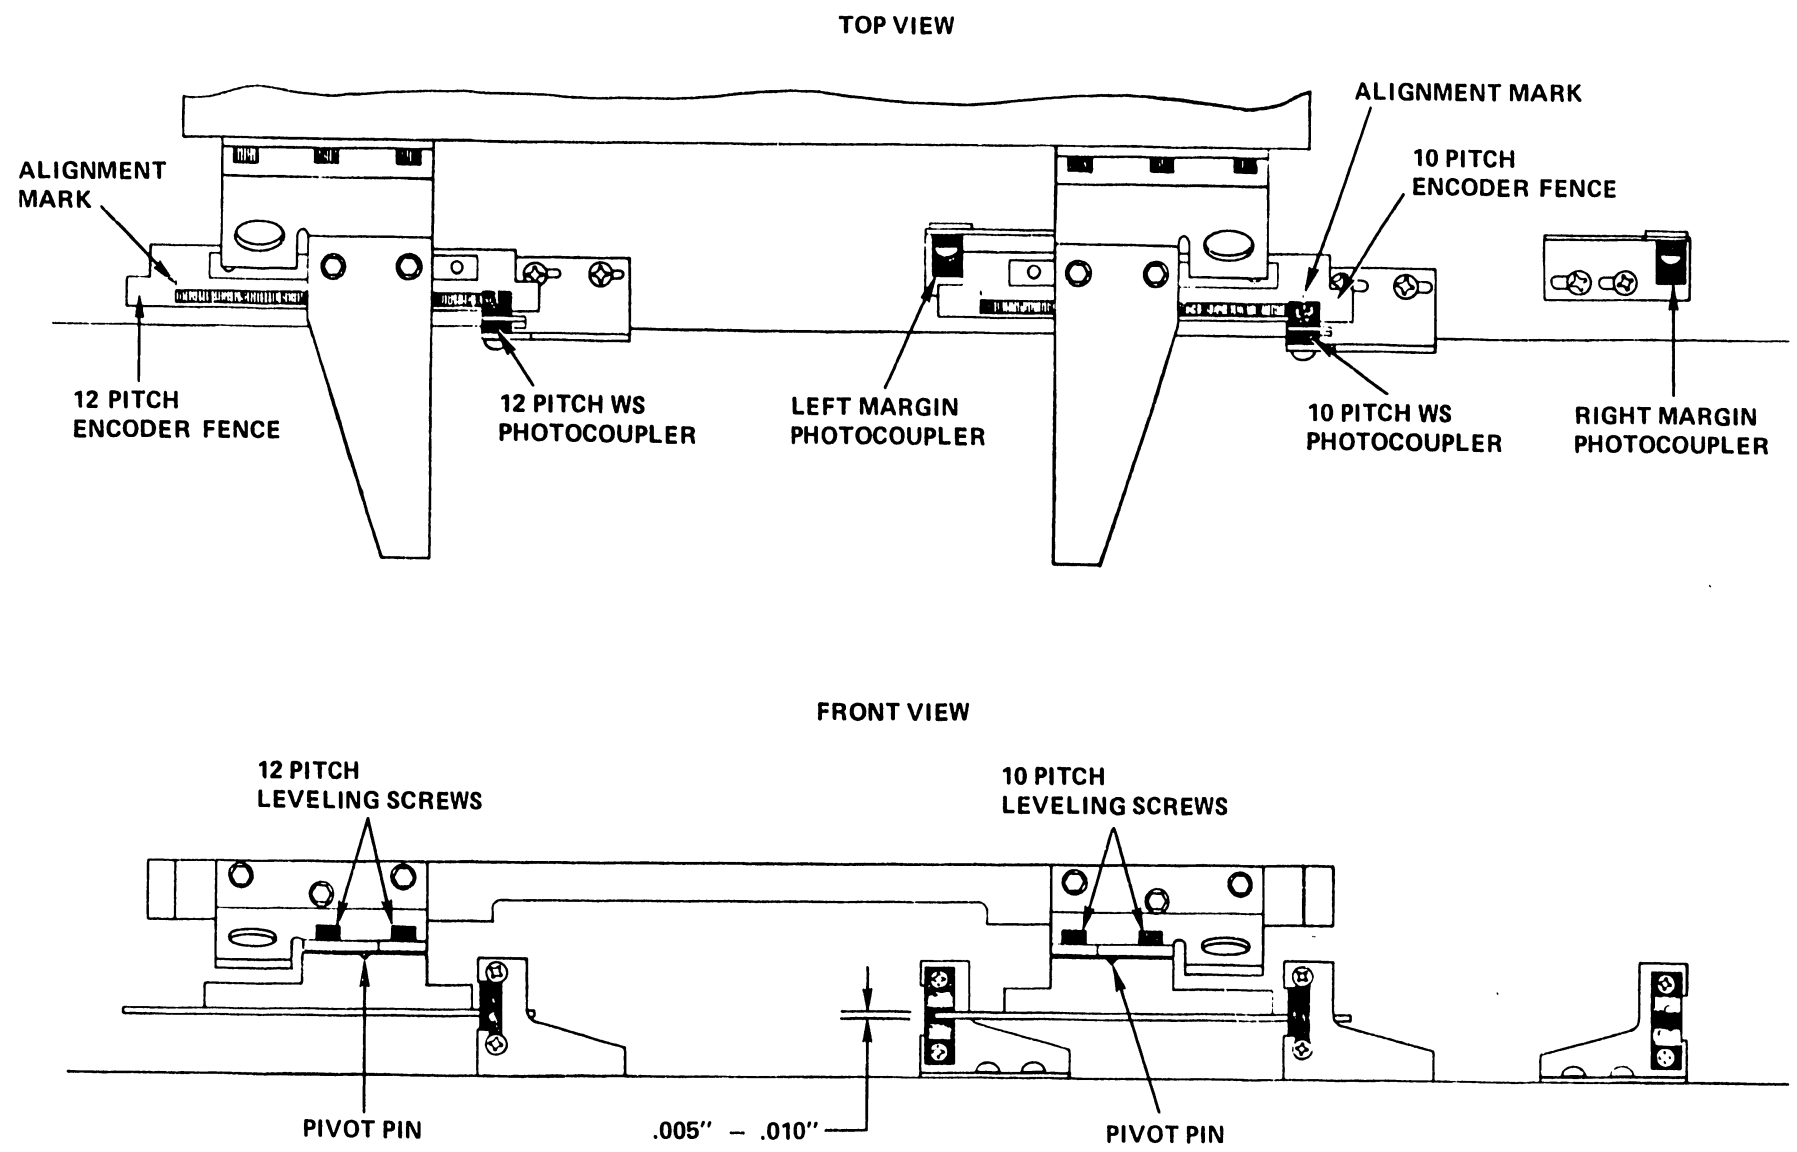

Figure 5-24. Encoder Fence Adjustment
- a. Timing (WS) Photocoupler Height - Move the carriage assembly to the middle of its track and position the pivot pins directly behind the alignment slits of the timing photocouplers. This will center both encoder fences, eliminating the possibility of checking the gap at a non-level point on a fence. Using a feeler gauge (Mylar, if available), check the clearance between the timing photocouplers and encoder fences (top surface at midpoint); the gap should measure .005" to .010". Adjust the photocouplers vertically to obtain the correct gap. See Figure 5-24.
- b. Encoder Fence Parallelism - While moving the carriage slowly from side to side, check the clearance between the top of each encoder fence and its respective timing (WS) photocoupler. Take caution not to strike the margin photocouplers with the edges of the fences. The clearance at the ends of each fence should be the same as the clearance in the center of the fence, .005" to .010". For this adjustment check, it may be helpful to have a Mylar shim of the proper thickness positioned between the top of the encoder fence and the photocoupler mask while the carriage is moved back and forth. If binding occurs, the fence is not level and will require adjustment.
- a. 10 Pitch Margin Timing - Move the carriage to the left margin and align print head #1 with the first character position of the striker plate. A notch has been ground into the striker plate at each end; the first character position is immediately to the right of this notch on the left end of the plate. See Figure 5-26. Loosen the bracket screws on the 10 pitch timing (WS) photocoupler and move the coupler laterally until its alignment slit is even with the alignment mark on right side of the 10 pitch fence. See Figures 5-24 and 5-27. Tighten the bracket screws.
The 12 pitch fence and photocoupler should now be lined up. If they are not, loosen the bracket screws on the 12 pitch timing (WS) photocoupler and move the coupler laterally until the alignment slit of the coupler is even with the alignment mark on the right side of the 12 pitch fence. Tighten the bracket screws. See Figure 5-24.